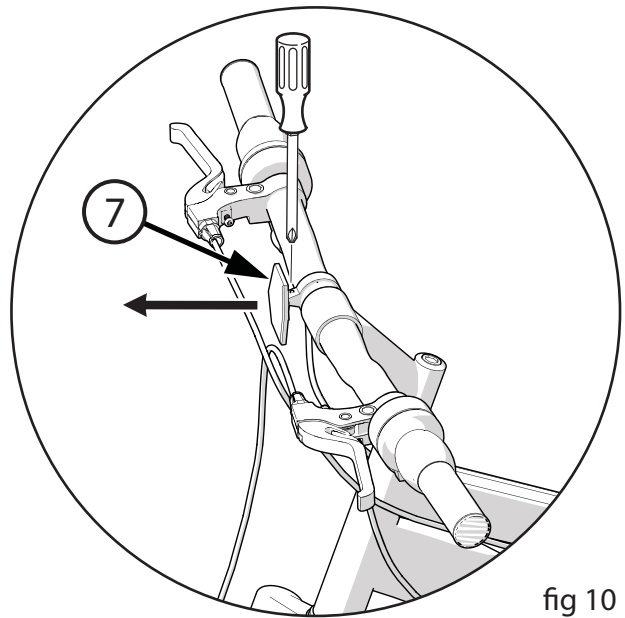

fig 10
1. Position FRONT Reflector (7) so it points straight forward (**fig 10**).